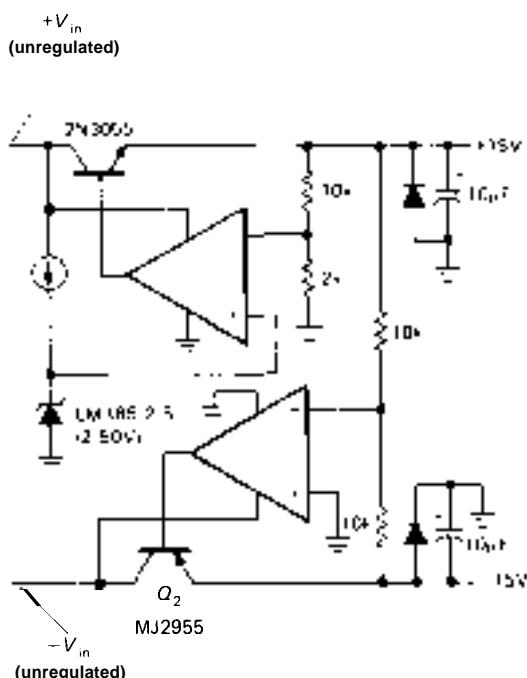

Figure 6.34. Dual-tracking regulator.
- **Dual tracking regulators.** Given the need for regulated split supplies, you might wonder why there aren't "dual 3-terminal regulators." Wonder no more - they exist and are known as "dual tracking regulators." To understand why they have such a complicated name, take a look at Figure 6.34, which shows the classic dual tracking regulator circuit.  $Q_1$  is the pass transistor for a conventional positive regulated supply. The positive regulated output is then simply used as the reference for a negative supply. The lower error amplifier controls the negative output by comparing the average of the two output voltages with ground, thus giving equal 15 volt positive and negative regulated outputs. The positive supply can be any of the configurations we have already talked about; if it is an adjustable regulator, the negative output follows any changes in the positive regulated output. In practice, it is wise to include current-limiting circuitry, not shown in Figure 6.34 for simplicity.